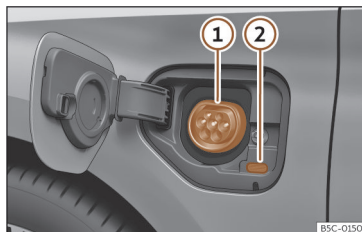

Fig. 198 Behind the battery charging cover on the front left-hand side: Charging socket
>>> **Fig. 198**
- With the vehicle unlocked, the battery charging cover opens when it is pressed >>> **Fig. 198**.